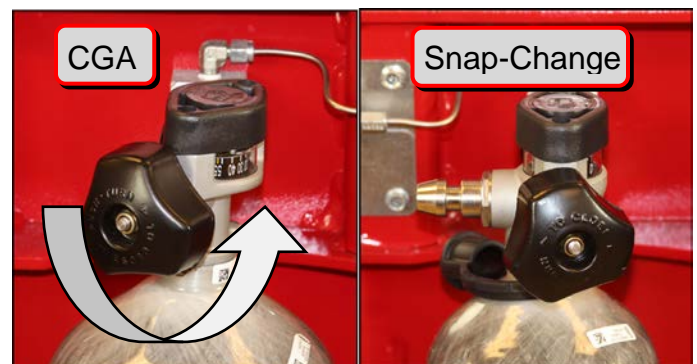

Figure 3.6-7: Cylinder Valve Types
6. If the cylinders are fitted with CGA type valves open them at this time. See Figure 3.6-7.